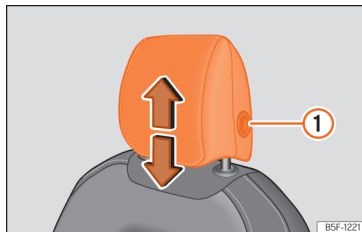
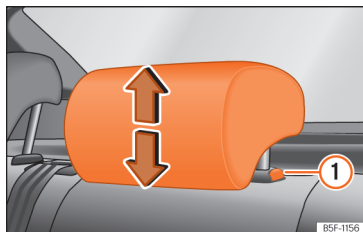

Fig. 94 Front seat: adjusting the head restraint.
Fig. 95 Rear headrest: adjusting the headrest.
- Grab the sides of the head restraints with both hands and push upwards to the desired position. To lower it, repeat the same action, pressing the button on the side ① >>> Fig. 94 , >>> Fig. 95.